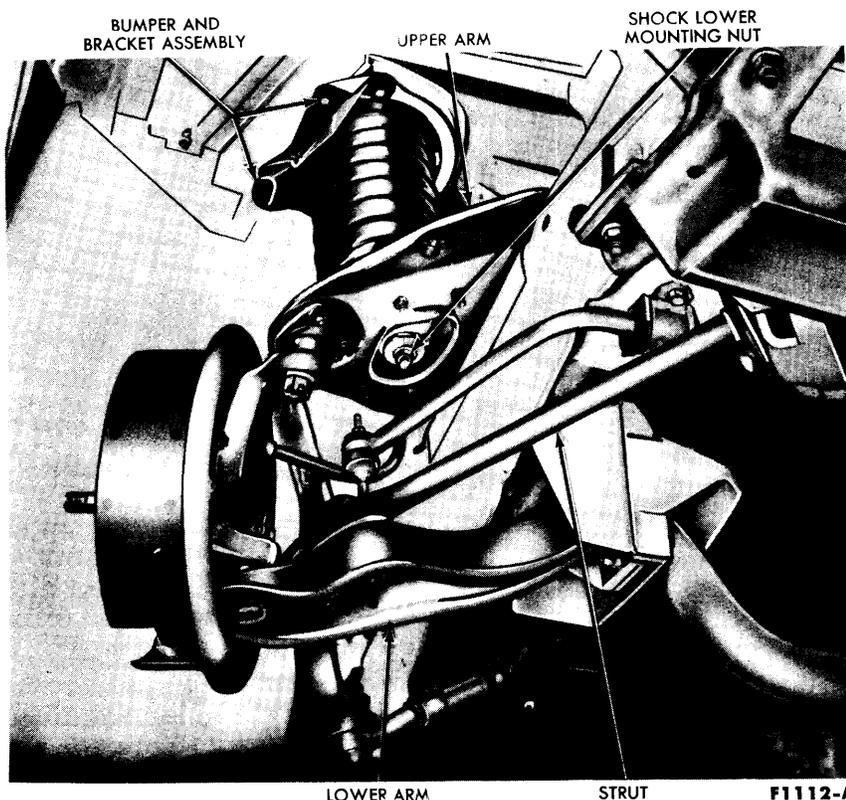

FIG. 1—Front Suspension
For necessary hoisting and jacking procedures, see Part 11-1. The 1962 Thunderbird front suspension is shown in Fig. 1. Whenever any part of the front suspension has been removed and installed, front wheel alignment must be checked.
2. Disconnect the lower end of the shock absorber from the spring lower seat by removing the retaining nut washer and insulator (Fig. 1).
7. Lower the car slightly with the safety stand under the lower control arm. This will raise the upper arm sufficiently to position the lower shock absorber stud through the hole at the bottom of the spring lower seat. Secure the lower end of the shock absorber to the spring seat by installing the insulator, washer and retaining nut on the shock absorber stud (Fig. 1).